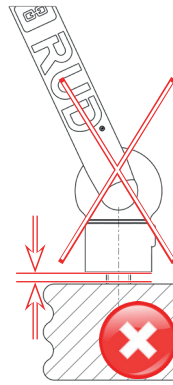
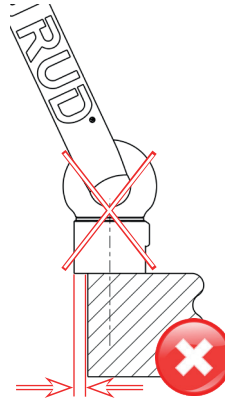

Fig. 11: The lifting point must be fully bolted in.
Fig. 12: TXP must be fully flat (contact surface $\geq D$)
- Lifting point must always be fully engaged (see Fig. 11).
- Ensure that the contact surface corresponds at least to the diameter D of the TCP lifting point. TXP lifting points must be fully flat (contact surface $\geq D$) (cf. Fig. 12 and Table 4).
- The contact surface of the TXP must be flat and lie completely on the bolting surface (see Fig. 11 and Fig. 12).